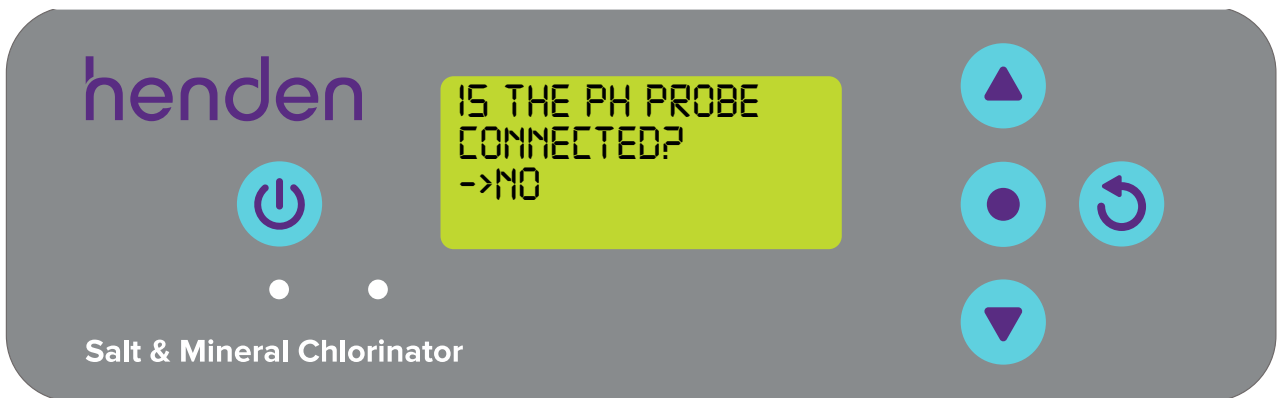

Figure 8.22
- Should you wish to change the setting, use the  **menu up/down** to scroll the display to "NO" (refer figure 8.22)